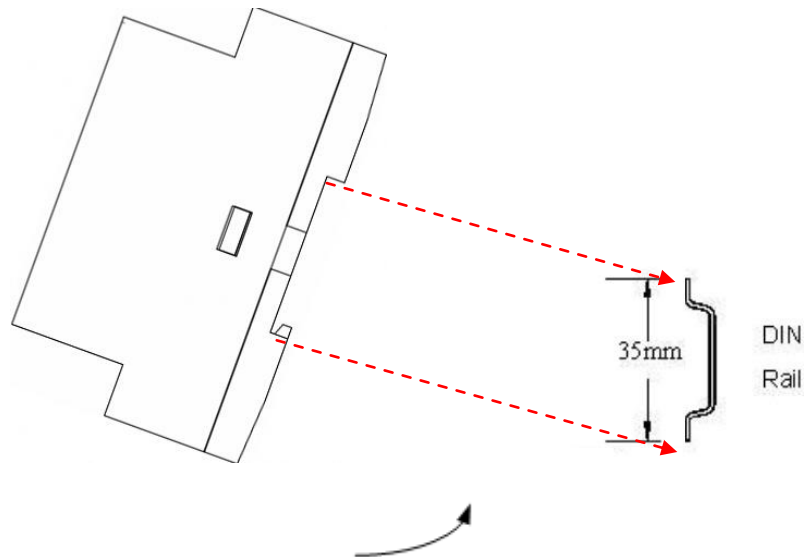

Figure 2-3 Mounting the PMC-518D
- Align the top of the mounting channel at the back of the PMC-518D at an angle against the top of the DIN rail as show in Figure 2-3 below